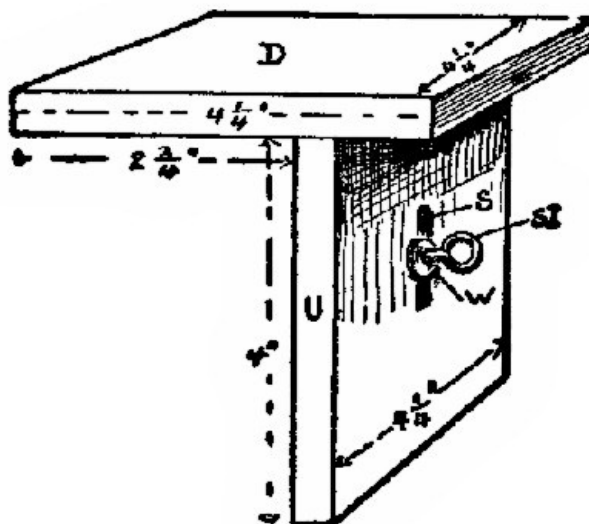

Fig. 124.
**273. Adjustable Table.** Fig. 124. A table that can be raised or lowered is useful. The one shown at *D*, Fig. 124, is used for the galvanometer of App. 117. The dimensions are given in the figure. The upright piece, *U*, is fastened to *D* with brass screws, *not* with nails, as these would affect the needle. It is placed at one side of *D* so that the compass needle placed in the center of *D* will also be in the center of the wire coils when used in App. 117. The table is fastened in any position by a screw-eye, *S I*, which presses a copper washer, *W*, against *U*. *S I* works through a narrow slot, *S*, and screws into the back of the galvanometer. By making *S* longer, the table may be used for other laboratory purposes, if it is joined with some other form of standard.